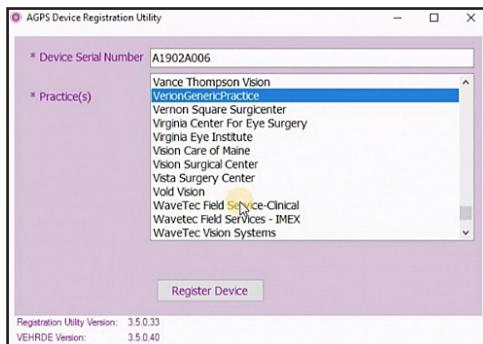

Figure 2-24 Registration Serial Number and Practice Screen
- 10.11 In the next screen, enter the device serial number (A+serial number) (see Figure 2-24).
- 10.12 Select the "practice name" (see Figure 2-24).